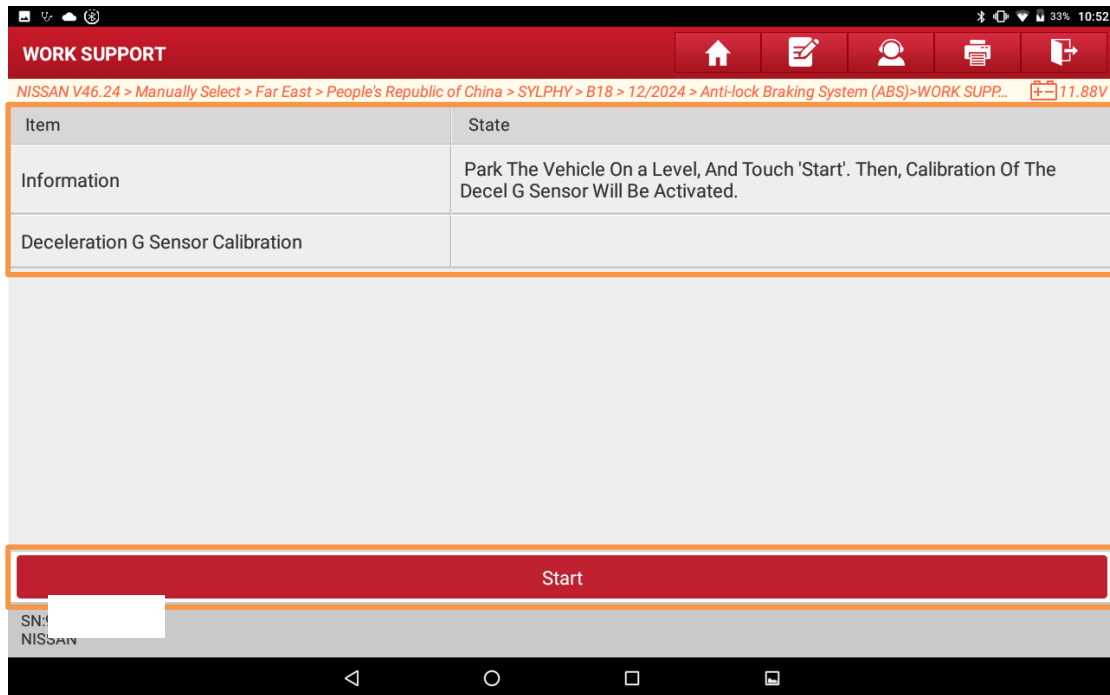

Figure 12
- Carefully read the prompts, place the vehicle on a perfectly level surface (such as the lift platform of a four-wheel aligner), and touch "Start" to initiate the deceleration G sensor calibration function (Figure 12).